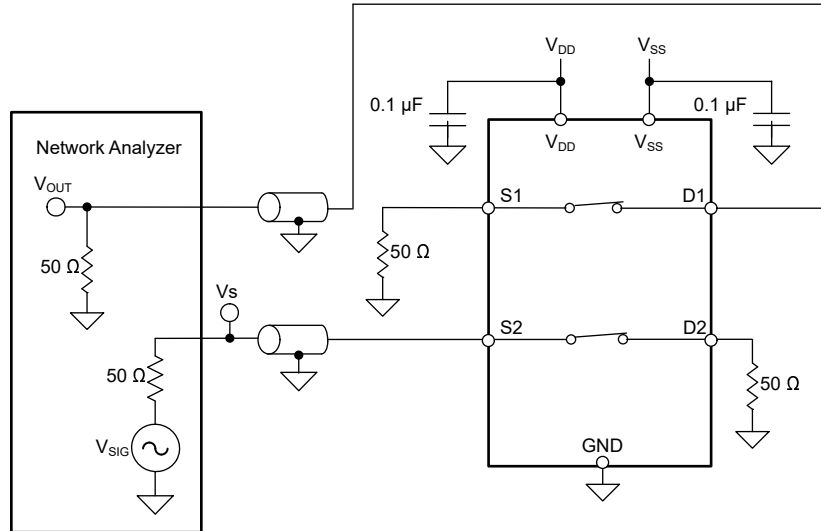

図 6-9. Crosstalk Measurement Setup
Crosstalk is defined as the ratio of the signal at the drain pin (D) of a different channel, when a signal is applied at the source pin (Sx) of an on-channel. 図 6-9 shows the setup used to measure, and 式 3 shows the equation used to calculate crosstalk.